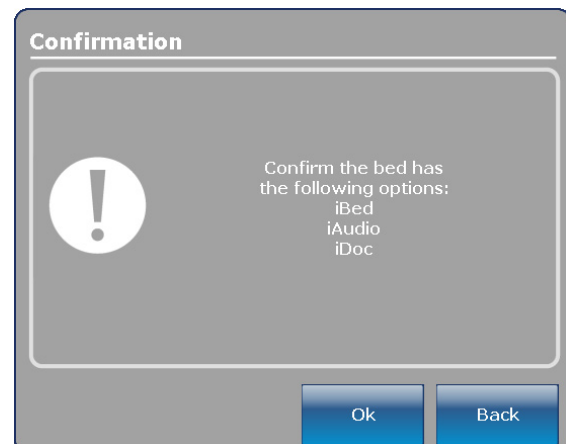

Figure 31: Bed Options Confirmation Screen
3. After pressing **Continue** in step 2, a confirmation screen as shown in Figure 31 will be displayed verifying the options you selected.